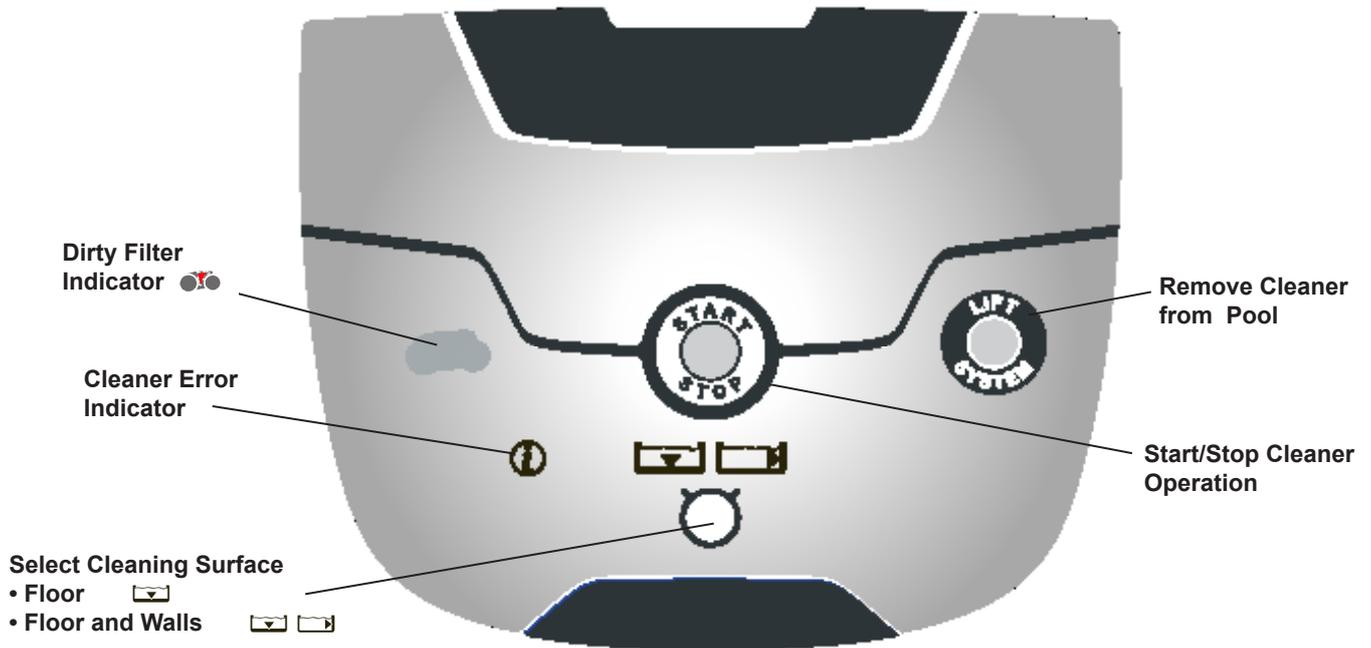

Figure 18. VX40 Control Box
2. When the cleaner is within arm's reach, use the handle to remove from the water (Figures 18, 19). Never lift the cleaner out of the pool by the floating cable.